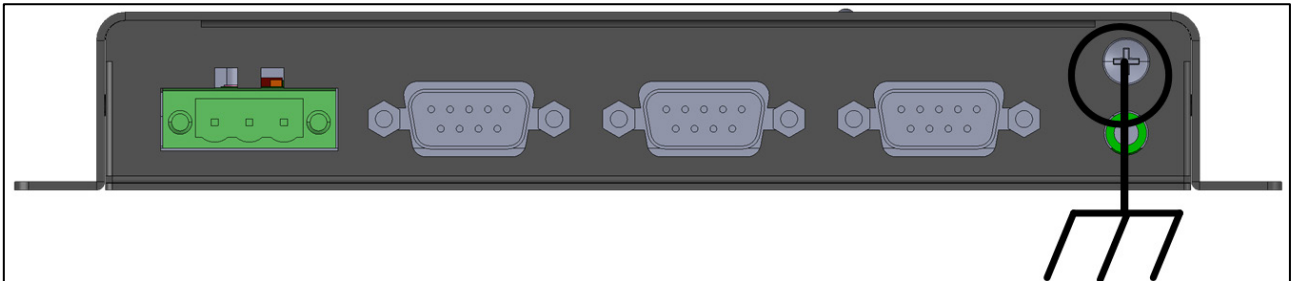

Figure 4: Grounding Schematic
*These wires come preconnected to the Comm-Box. If they need to be reattached, place the white cable (#3) in the port as shown in Figure 4. Place both black cables into the ports as shown in Figure 4; either cable can be placed in either port.